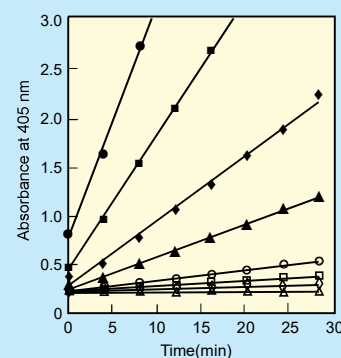
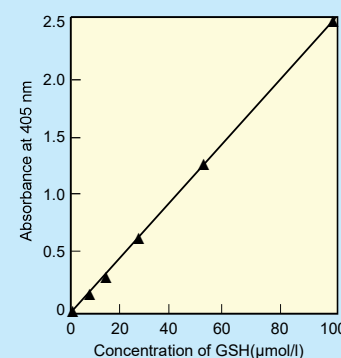

Fig. 5 Time-dependent Abs. increase on eight different samples
Fig. 6 Calibration curve prepared using pseudo-endpoint method (10 min incubation at room temperature)
7. Determine concentrations of GSH in the sample solutions using a calibration curve. Since the colorimetric reaction is stable and the O. D. increases linearly over 30 min. A time course of the colorimetric reaction is shown Fig. 5. Typical calibration curves prepared using the pseudo-endpoint method is indicated in Fig. 6.